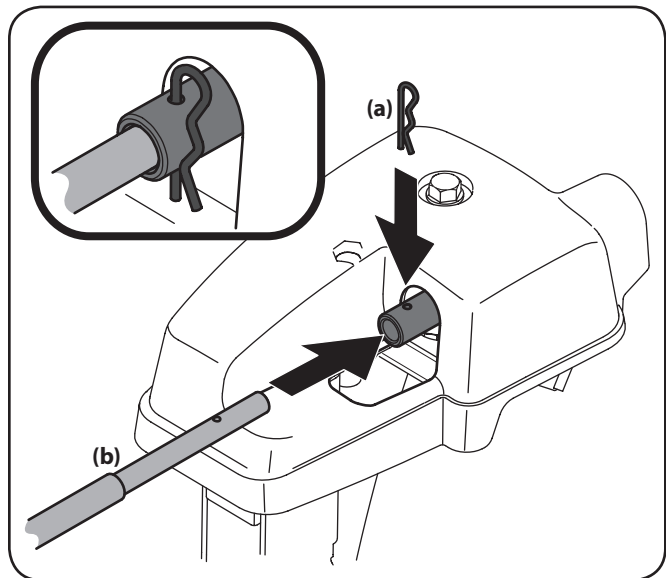

Figure 3-7
5. Insert flex shaft removed during Handle Assembly from the lower handle into rear of the chute directional control head. See Figure 3-7. Secure the flex shaft (b) to the chute control head with the hairpin clip (a) removed in Step 4.